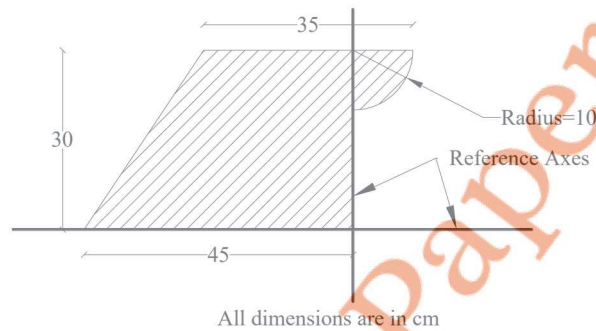

Figure-4
- (c) Locate the centroid from the given reference axes of the lamina shown in **Figure-4**. 07
- (c) Calculate the moment of inertia of the section about the horizontal axis passing through the base. Refer **Figure-4**. 07